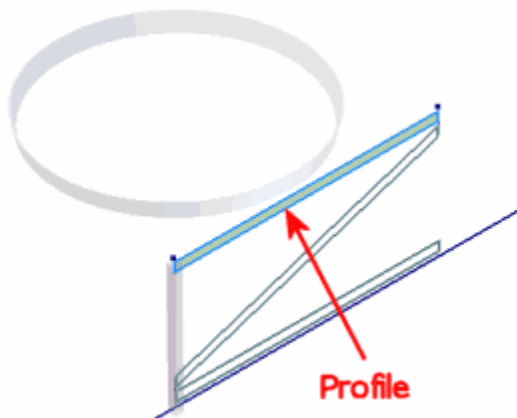

Figure 12: Extrusion profile.
10. From the Features panel bar, click the Extrude tool. Select the profile highlighted in Figure 12.